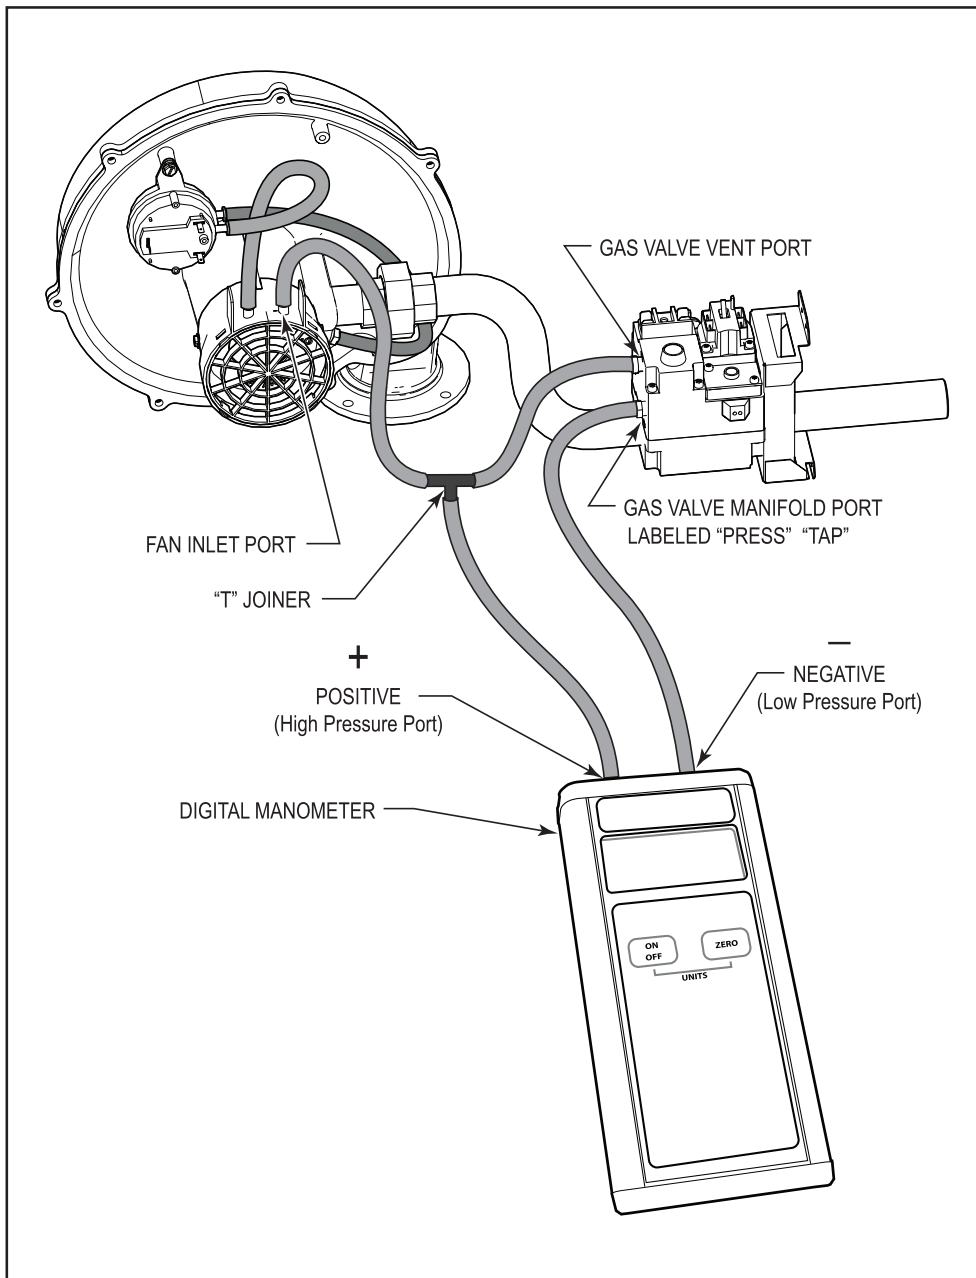

Figure 20. Testing Gas Offset Pressure
2. Test the offset pressure with the heater running using a digital differential pressure manometer. Connect a tee to the hose from the fan inlet port (see Figure 20) on the blower.
3. Connect a shorter hose from the gas valve vent port to the opposite side of the tee (see Figure 20).
4. The manometer has a positive (high pressure) port and a negative (low pressure) port. Connect a hose on the third joint of the tee to the positive (high pressure) side of the manometer (see Figure 20).
6. Connect one end of a hose to the gas valve manifold port and the other end to the negative (low pressure) side of the manometer (see Figure 20).